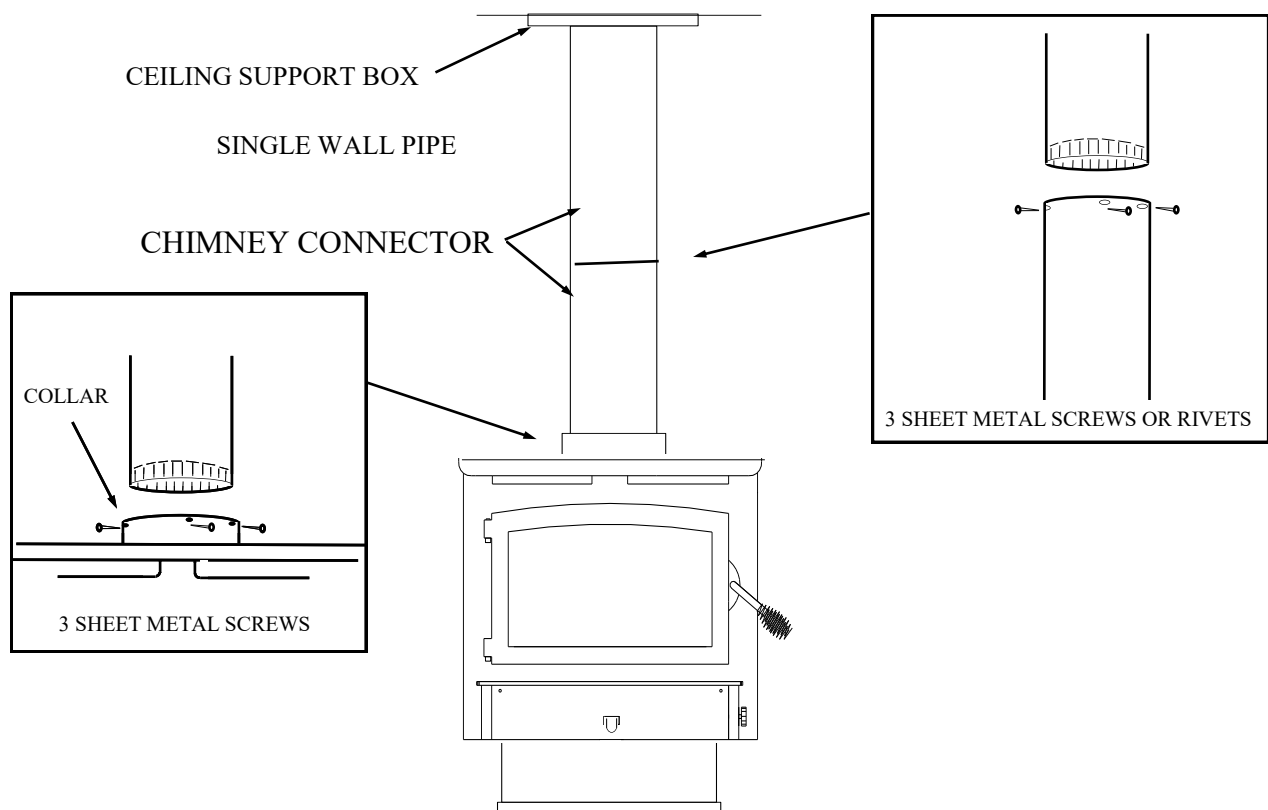

Figure 28
- Using single wall chimney connector, connect heater to chimney by following manufacturer's installation instructions exactly. (See Figure 28).